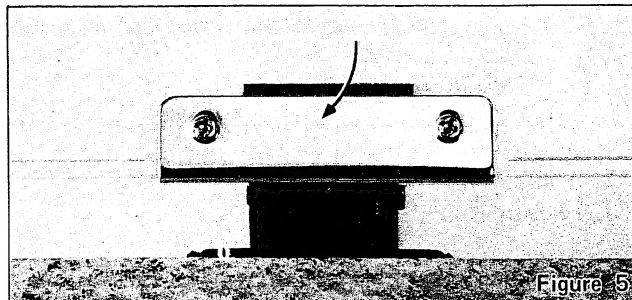

Figure 5
1. Insert the dust cover hinge into the player board hinge in the direction of arrow shown in figure 5.